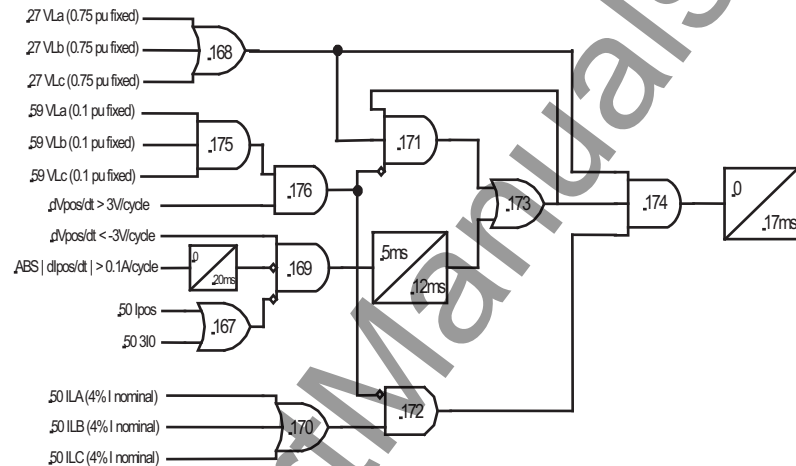

Figure 6.8: Loss of Potential Logic (60)
- 3 Connect 3-phase current sources (0.5 A) to the L-PRO terminals (must be greater than 0.2 A (4% Inominal) to enable due to low set supervision, for details see Figure 6.8: Loss of Potential Logic (60) on page 6-10).